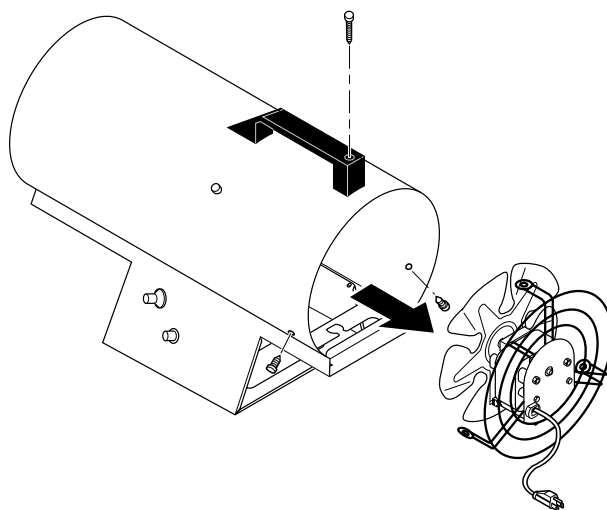

Figure 13 - Removing Motor and Fan Guard from Heater
2. Remove motor and fan guard from heater shell (see Figure 13).